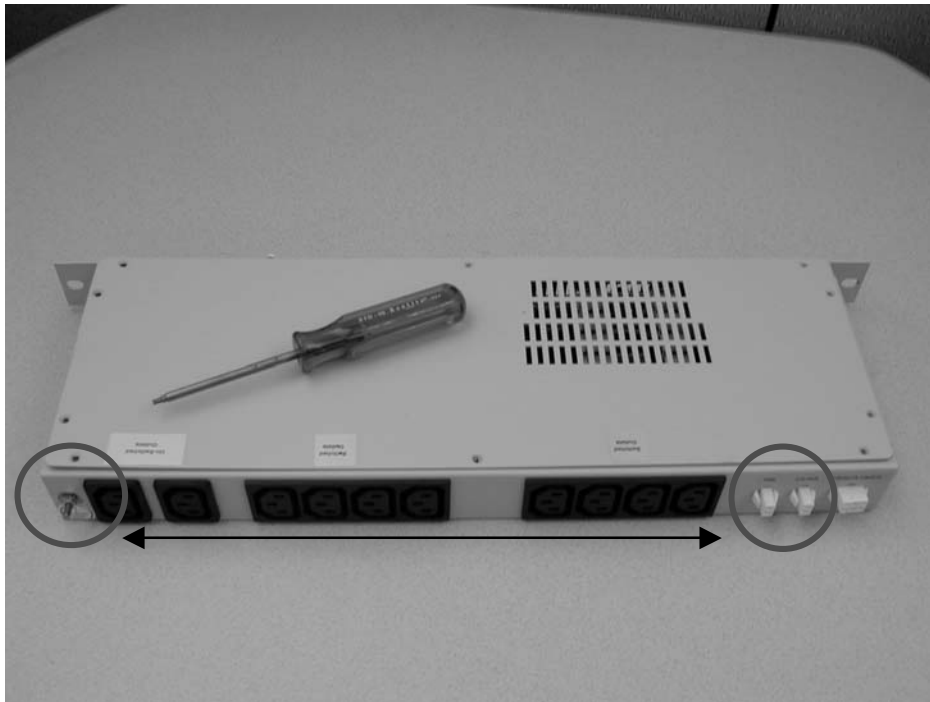

Figure 11. Measure Continuity Between these Points.
- Replace the PDU cover. Verify proper installation of the ground wire by checking continuity between the ground terminal and the bottom (LO) pins of the connectors shown in Figure 11. Re-install the unit in the system rack.